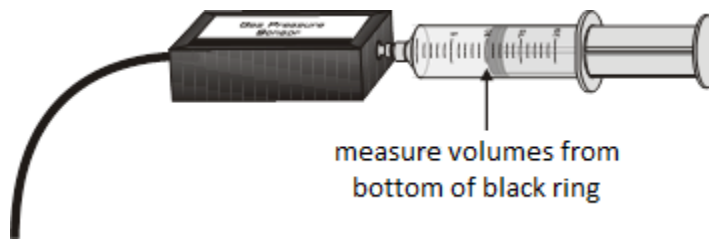

Figure 1. Syringe connected to pressure sensor.
4. With the syringe disconnected from the pressure sensor, slide the plunger of the syringe so that the first black rubber gasket (the base of the rubber "cone") rests on the 10 mL line. Connect the syringe directly to the port on the pressure sensor with a gentle twisting motion – do not over-tighten (see Figure 1). If the syringe or the pressure sensor has been damaged from overtightening (by a previous student), you may use Parafilm to form an air-tight seal between the syringe and the pressure sensor. For the remainder of the experiment, do not unscrew the syringe from the gas pressure sensor or remove the piston from the syringe. The air that is trapped inside the syringe will serve as the "gas" for your experiment.